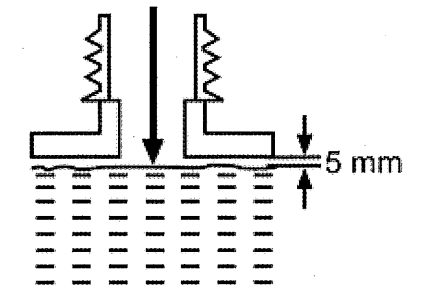

Fig. 19
8. Fill correctly mixed fuel / oil into the tank using a fuel funnel fitted with a filter to avoid debris entering the tank. Do not overfill. Leave a minimum 5 mm of space between the top of the fuel and the inside edge of the tank to allow for expansion (Fig. 19).